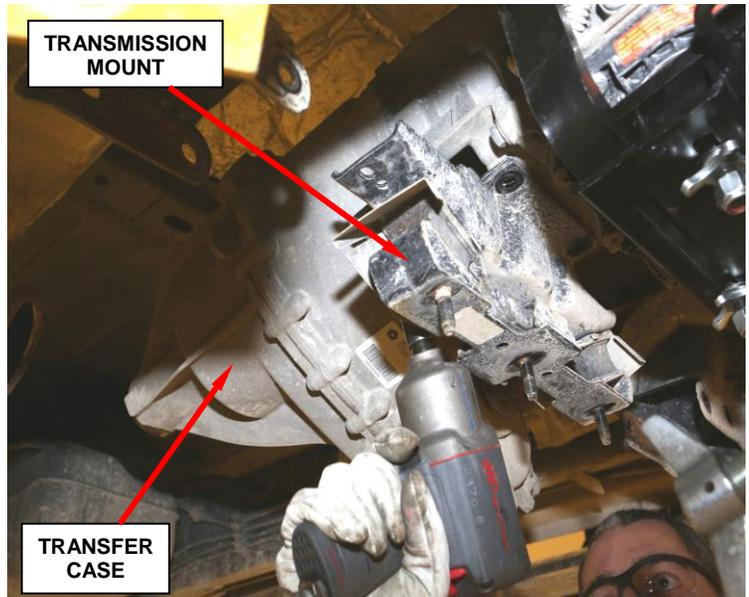

Figure 3 – Transmission Mount
8. Remove and save the transmission mount and adapter bracket (Figure 3).
45. Install the transmission mount and adapter bracket (Figure 3).